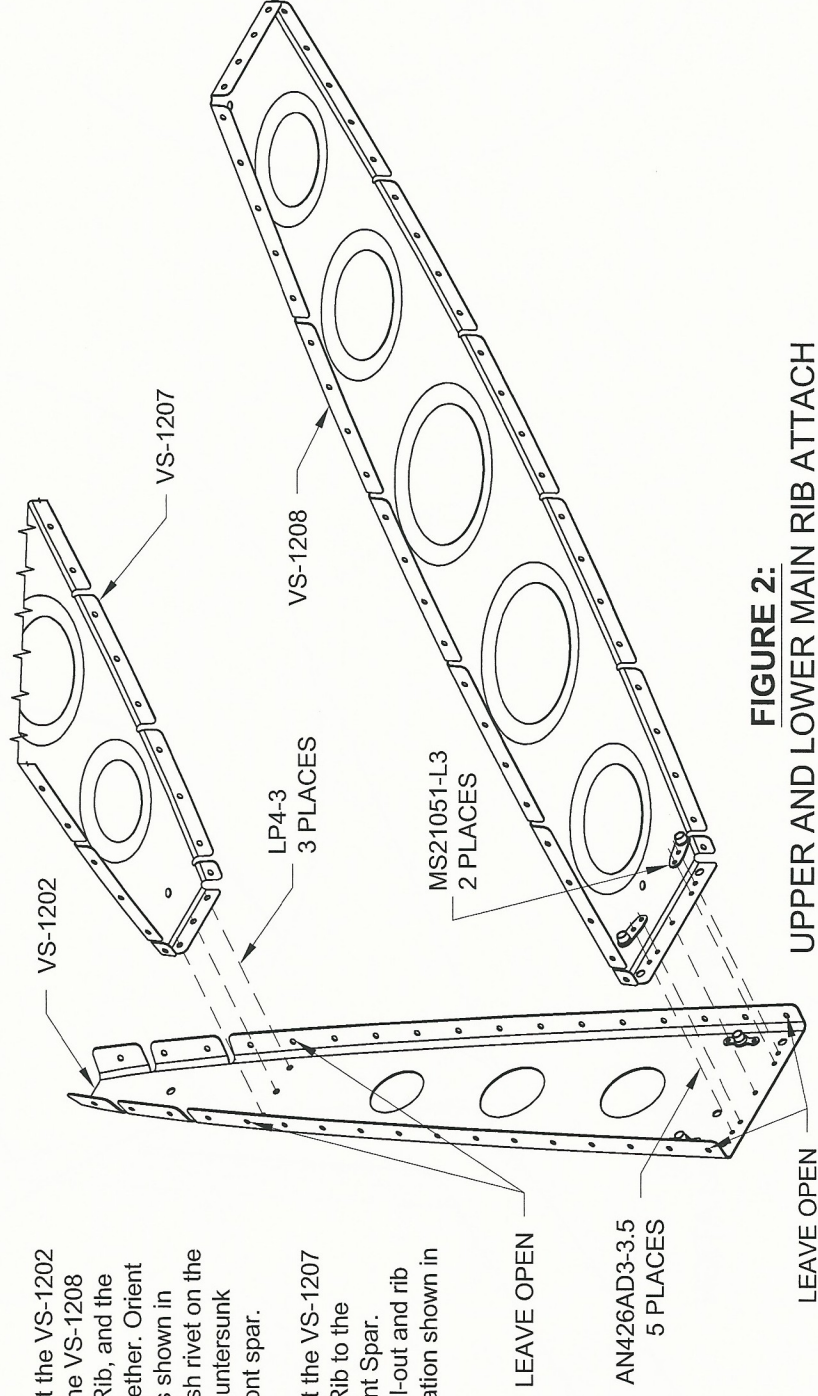

FIGURE 2:
Step 3: Rivet the VS-1202 Front Spar, the VS-1208 Lower Main Rib, and the nutplates together. Orient rib flanges as shown in Figure 2. Flush rivet on the previously countersunk side of the front spar.
Step 4: Rivet the VS-1207 Upper Main Rib to the VS-1202 Front Spar. Hardware call-out and rib flange orientation shown in Figure 2.